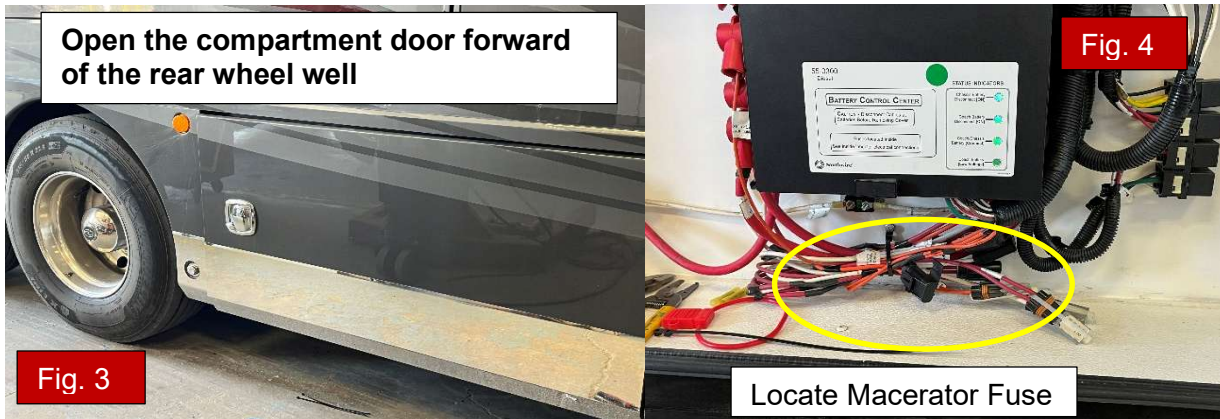

**Fig. 1**
1. Locate the macerator switch in the service bay on the driver's side of the motor home. Activate the switch to ensure the macerator is working. See Fig 1. If the macerator is working turn it off until the repair procedure is completed.
1. Go to the driver's side service compartment and locate the macerator activation switch shown below (Fig 1) on the compartment door. Activate the switch to ensure the macerator is operational. If you hear it, turn the switch off.